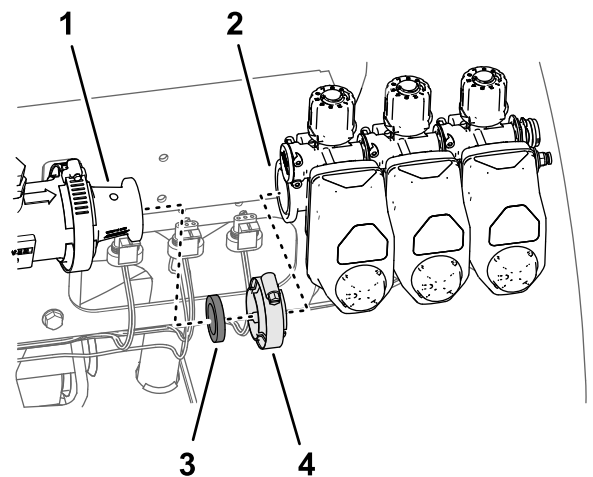

Figure 67
3. Remove the flange clamp 40 to 64 mm (1-9/16 to 2-1/2 inches) and gasket 25 x 35 mm (1 x 1-3/8 inches) that secures the flange of the left section valve to the adapter (Figure 67).
4. Remove the 3 section valves from the machine (Figure 67).